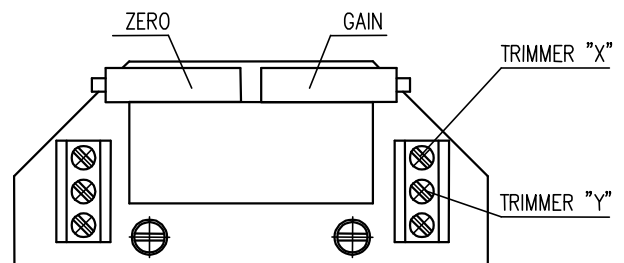

Fig. 6
4.4.2 EPV – 3-wire version (Fig. 6, 6a)
- Adjust the resistive transmitter according to the previous chapter. The resistance is to be metered on the terminals X-Y, resp. 0%-100% (Fig. 6, 6a). The used transmitter resistance is 2000 W or 100 W..